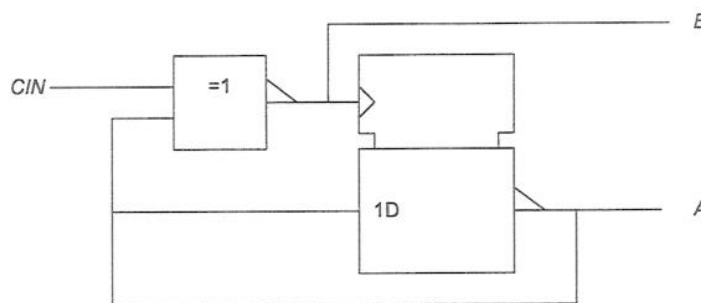

Figure 5.2
c) Figure 5.2 shows a clock generation circuit. Assuming that CIN is a symmetric clock signal, draw the timing waveform for the output signals A and B . What is the relationship between B and CIN ? What is the maximum frequency of CIN for this circuit to work correctly?